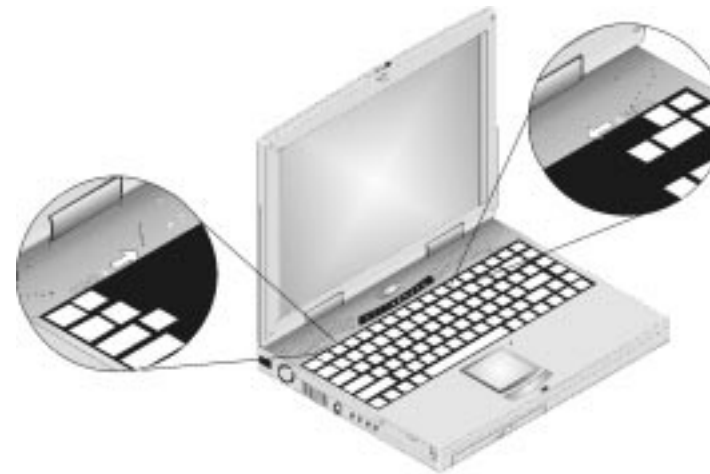

Figure 4-11: Slider Tabs
1. Above the F2 key and the Insert key(Ins) there are slider tabs. Slide these tabs inward toward the center of the keyboard, as illustrated in figure 4-11.